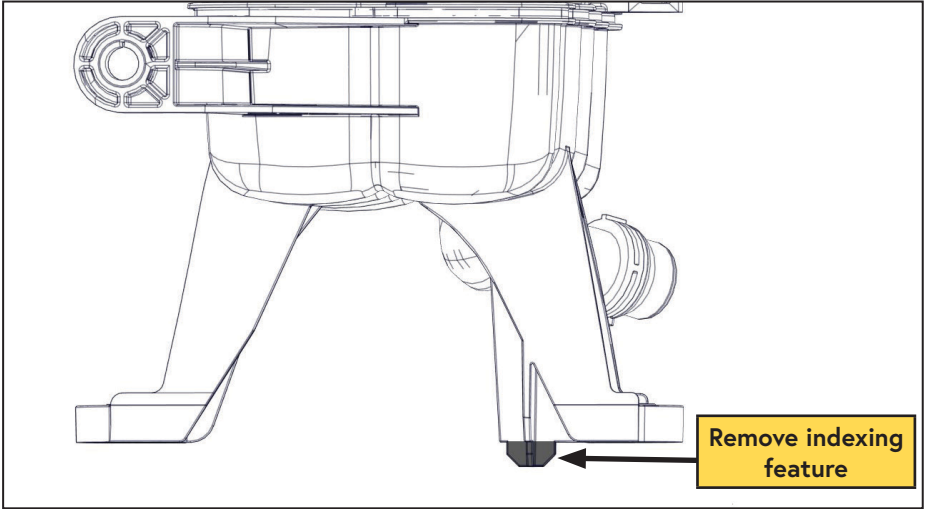

Figure 56 — Modify degas bottle
- ☐ Cut the indexing feature of the degas bottle flush with the foot (Figure 56).